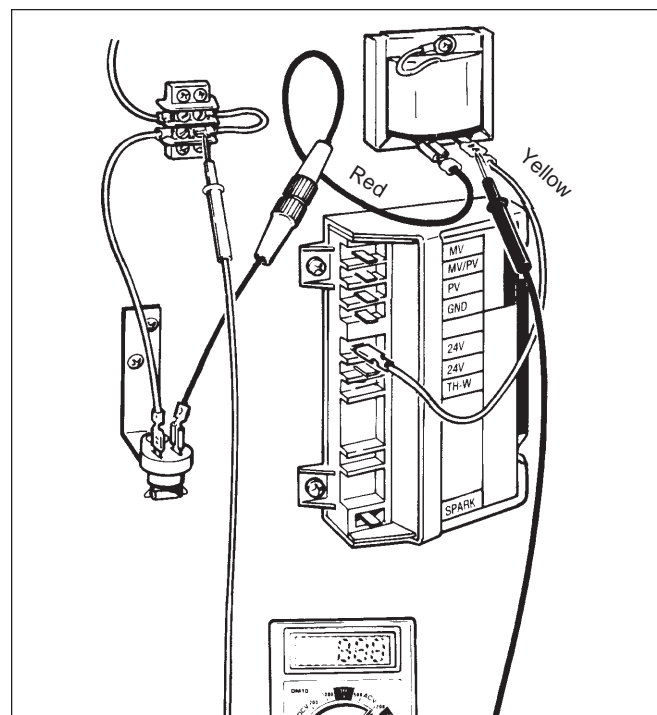

Figure 36. Testing the fusible link.
2. Touch the voltmeter lead to the lower terminal on the terminal block (see Figure 36).